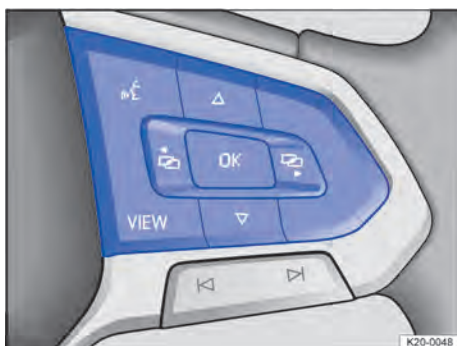

Fig. 13 Right-hand side of the multifunction steering wheel: controls for using the menus and information displays in the instrument cluster.
If any priority 1 warnings are displayed, you will be unable to open any menus → page 20. Some warnings can be confirmed and hidden with the **OK** → Fig. 13 button on the multifunction steering wheel. *Vehicles without multifunction steering wheel:* If any priority 1 warning reports are being displayed, you will be unable to open
2. Press the **OK** → Fig. 13 button, several times if required, if a message or the vehicle pictogram is displayed.
3. Press the  or  button to display the menus and to browse through a menu → Fig. 13.
4. To open the menu or information display shown, press the **OK** button → Fig. 13 or wait until the menu or information display opens automatically after a few seconds.
1. Press the arrow buttons  or  in the displayed menu until the desired menu option is highlighted → Fig. 13.
2. Press the **OK** button → Fig. 13 to make the required changes.
1. Press the  or  → Fig. 13 button.
— To switch between the current and previous menus, press the **VIEW** button → Fig. 13, → page 26.